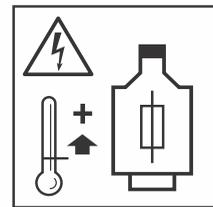

Fig.: 12
3. Allow for a motor overload protection in the switch box (fig. 12., See Pg 10)
- Allow for a motor overload protection in the switch box (Fig. 12)